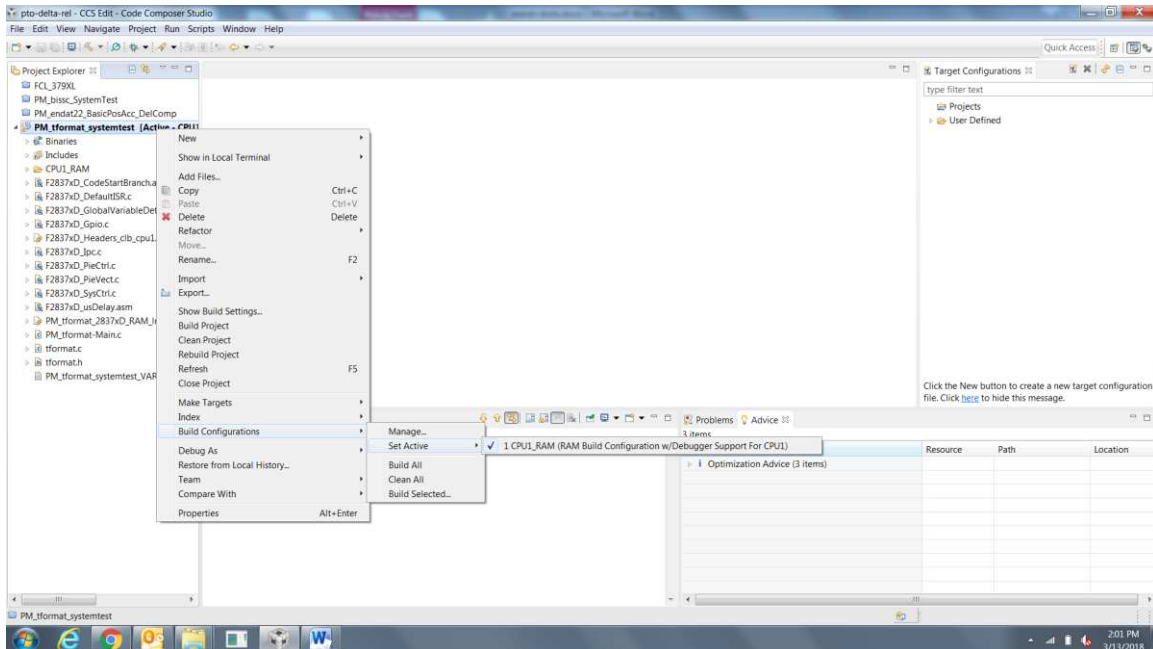

Figure 9. Selecting F2837x_RAM Configuration
- As shown in Figure 9, right-click on an individual project and select *Active Build Configuration* → *CPU1_RAM* configuration.